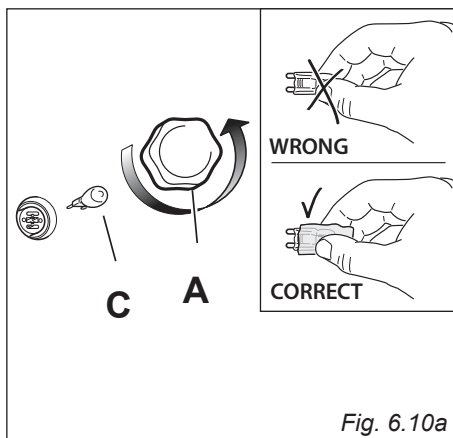

Fig. 6.10a
- Remove the protective cover “A” (fig. 6.10a).